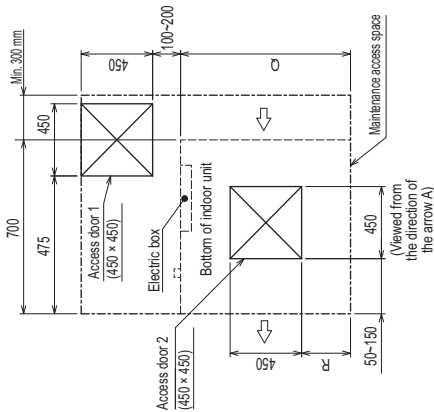

Fig. 2
- Create access door 1 and 2 (450 × 450 mm each) as shown in Fig. 2.